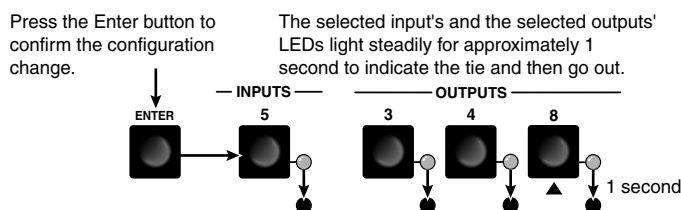

Figure 3-6 — Press the Enter button
- Press and release the Enter button (figure 3-6).